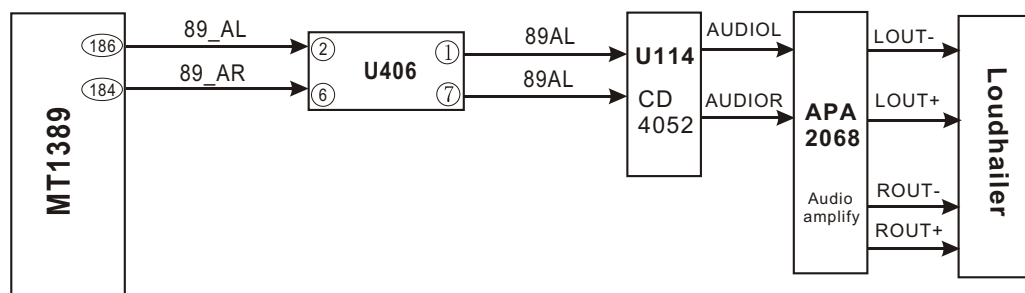

Figure 3.2.14.1 Audio signal flow chart block diagram
1. Audio signal process block diagram is shown in the figure 3.2.14.1: